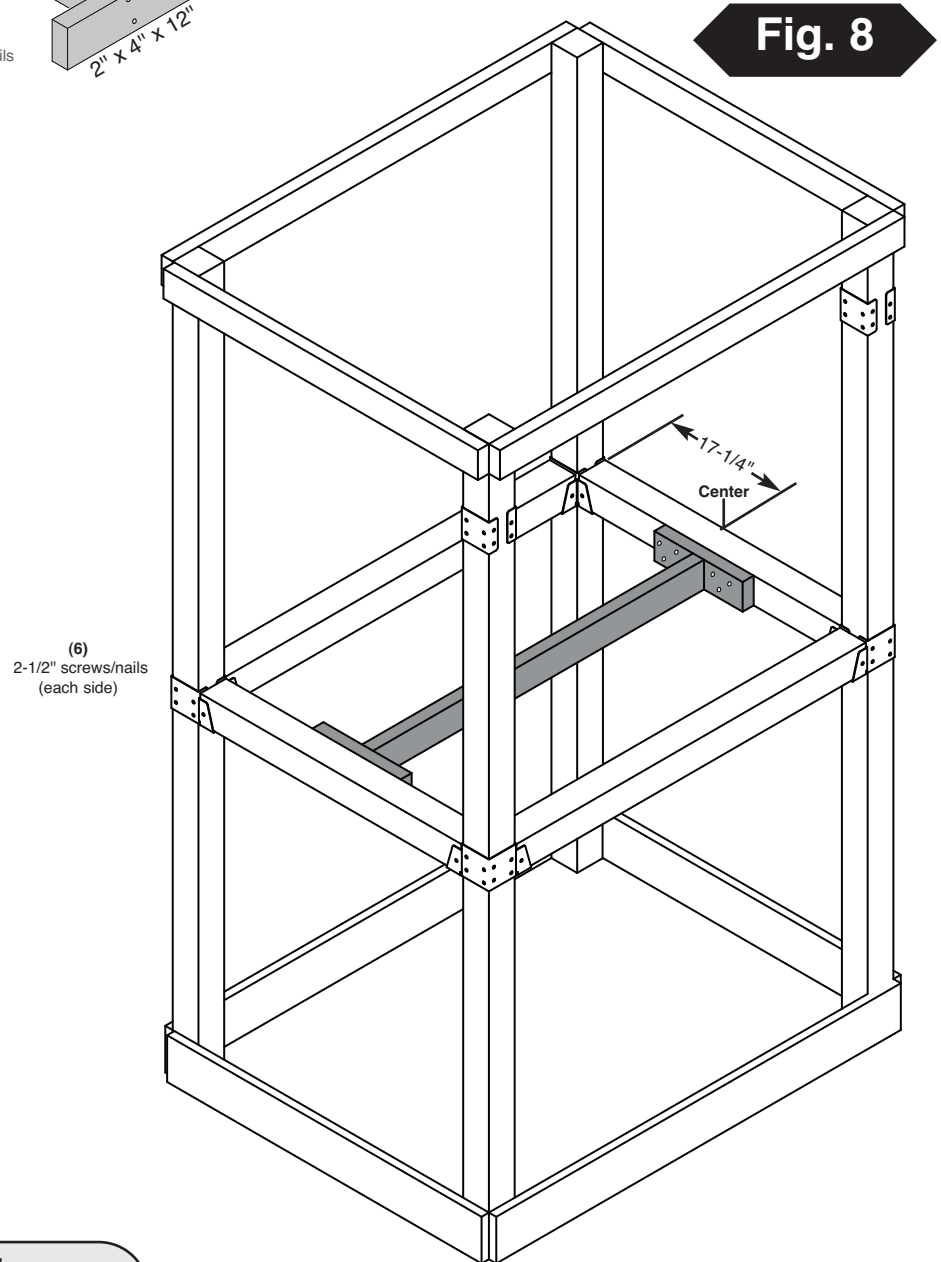

Fig. 8
2. Secure center support beam to structure as shown in **(Fig. 8)**.